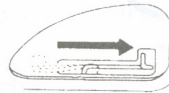

Fig 3
7.1.3. Turn the choke lever to "CLOSED" position if the generator engine is cold. Fig.3